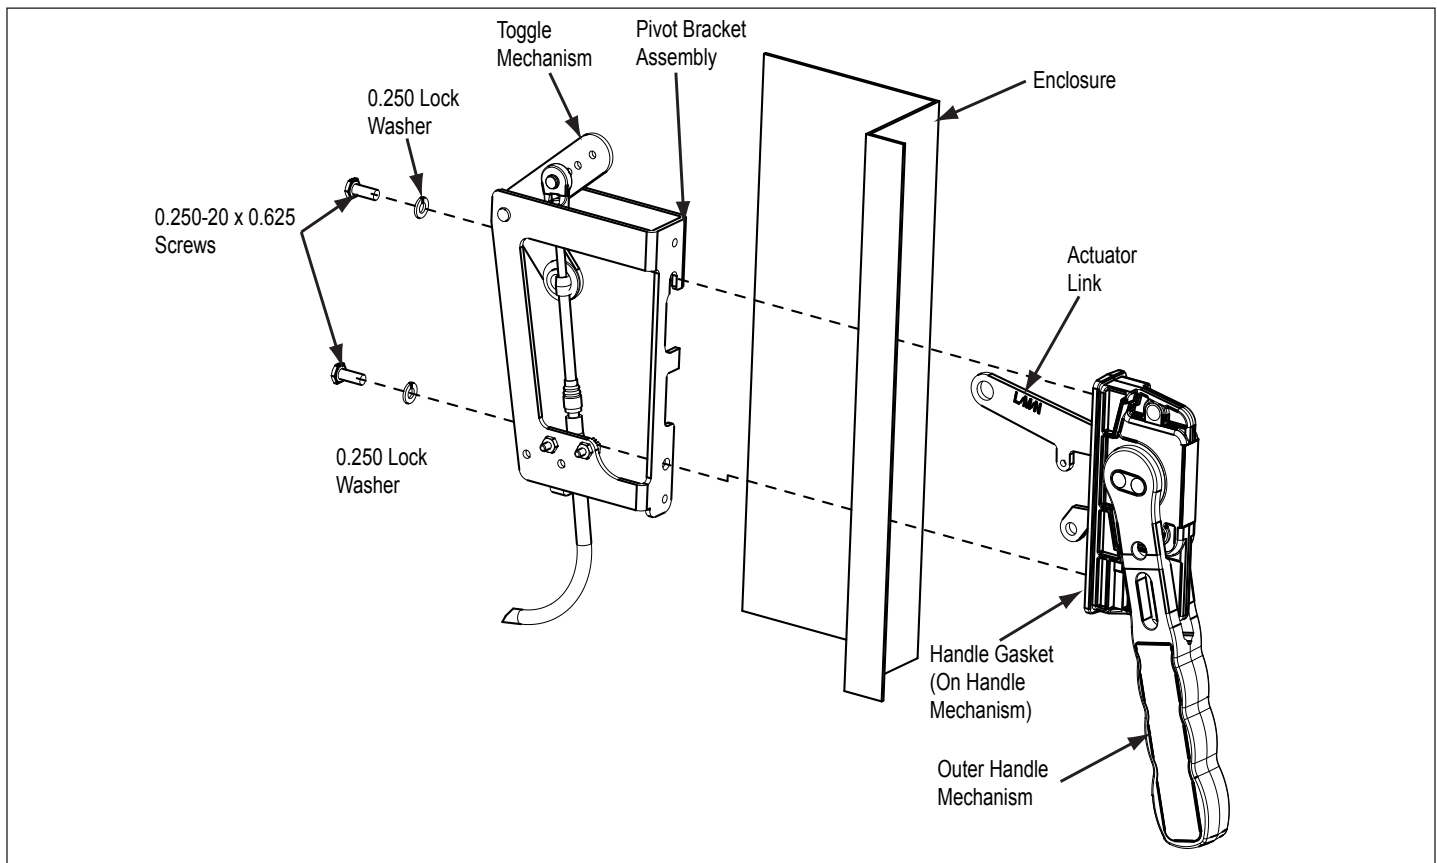

Figure 1. Pivot Bracket and Outer Handle Mechanism Assembly.
1. Remove the two 0.250-20 x 0.625" screws and lock washers from the outer handle mechanism. Place each screw and lock washer through the pivot bracket assembly. Thread the retaining washers enclosed in the parts kit onto the 0.250-20 x 0.625" screws (see Figure 1).
2. Connect the actuator link from the outer handle mechanism on the pivot bracket assembly. Mount the pivot bracket assembly to the enclosure and outer handle mechanism by securing the mounting hardware. Attach the E-Ring supplied in the parts kit to the actuator link (see Figure 1).